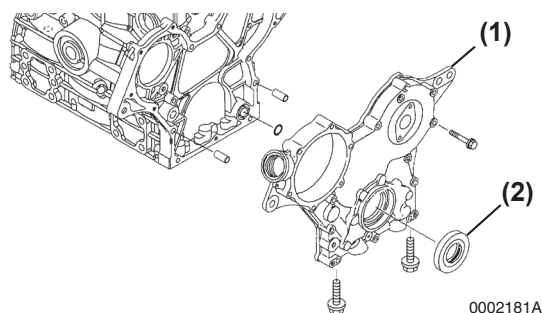

Figure 4-2-61
1. Remove the seal (Figure 4-2-61, (2)) from the gear case cover (Figure 4-2-61, (1)).
2. Apply a continuous bead of ThreeBond Liquid Gasket No. 1212, Yanmar Part No.977770-01212 to the outside diameter of a new oil seal (Figure 4-2-61, (2)).